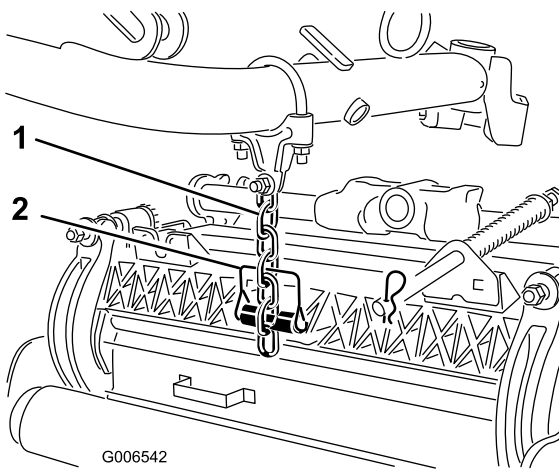

Figure 14
8. Secure the lift arm chain to the cutting unit chain bracket (Figure 14) with the snapper pin as follows: